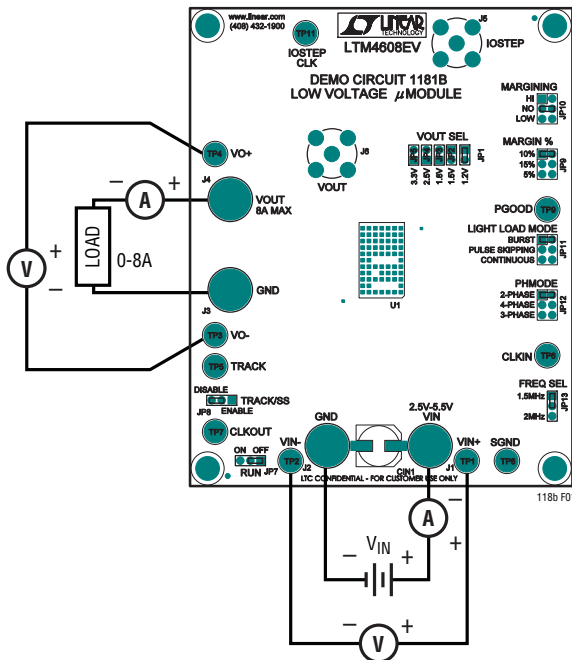

Figure 1. Test Setup of DC1181B
Demonstration circuit DC1181B is easy to set up to evaluate the performance of the LTM4608EV. Please refer to Figure 1 for proper measurement equipment setup and follow the procedure below:
2. With power off, connect the input power supply, load and meters as shown in Figure 1. Preset the load to 0A and VIN supply to be less than 5.5V.